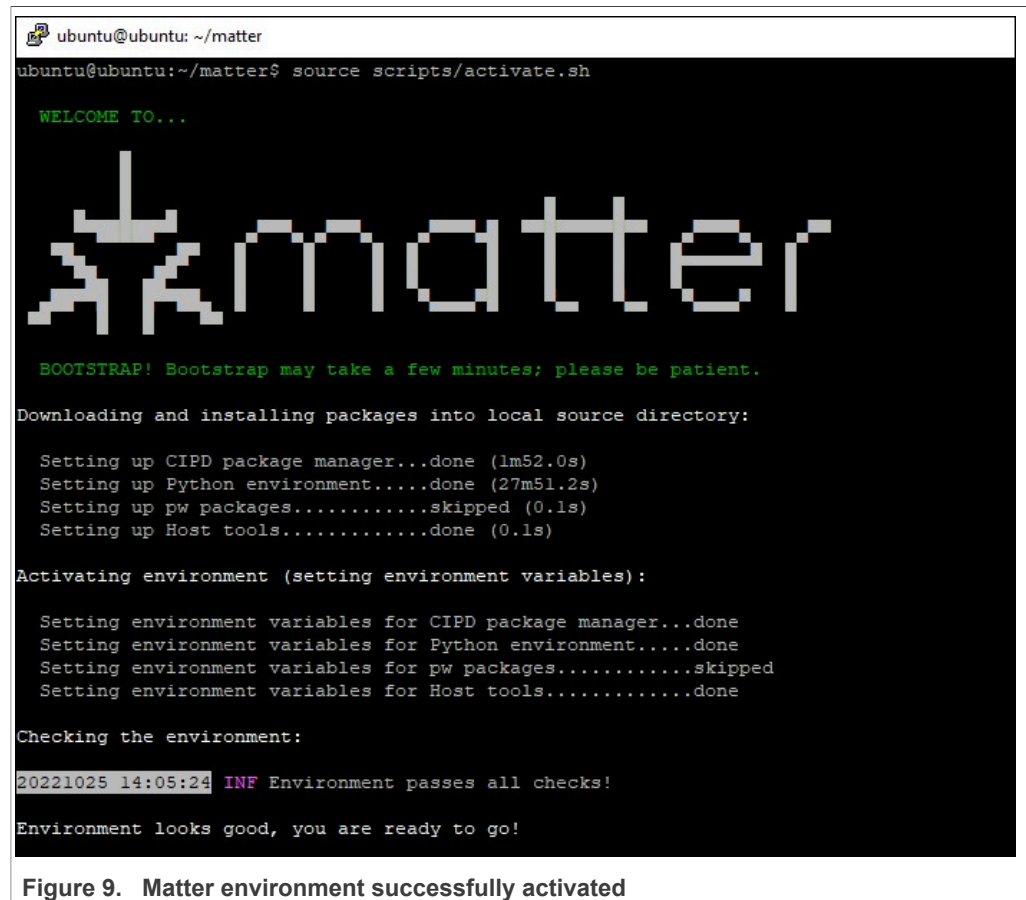

Figure 9. Matter environment successfully activated
3. Clone the NXP's Matter repository fork in the user home folder (e.g., `/home/ubuntu/`), then activate the Matter environment. If the activation is successful, you should see the message shown in Figure 9.